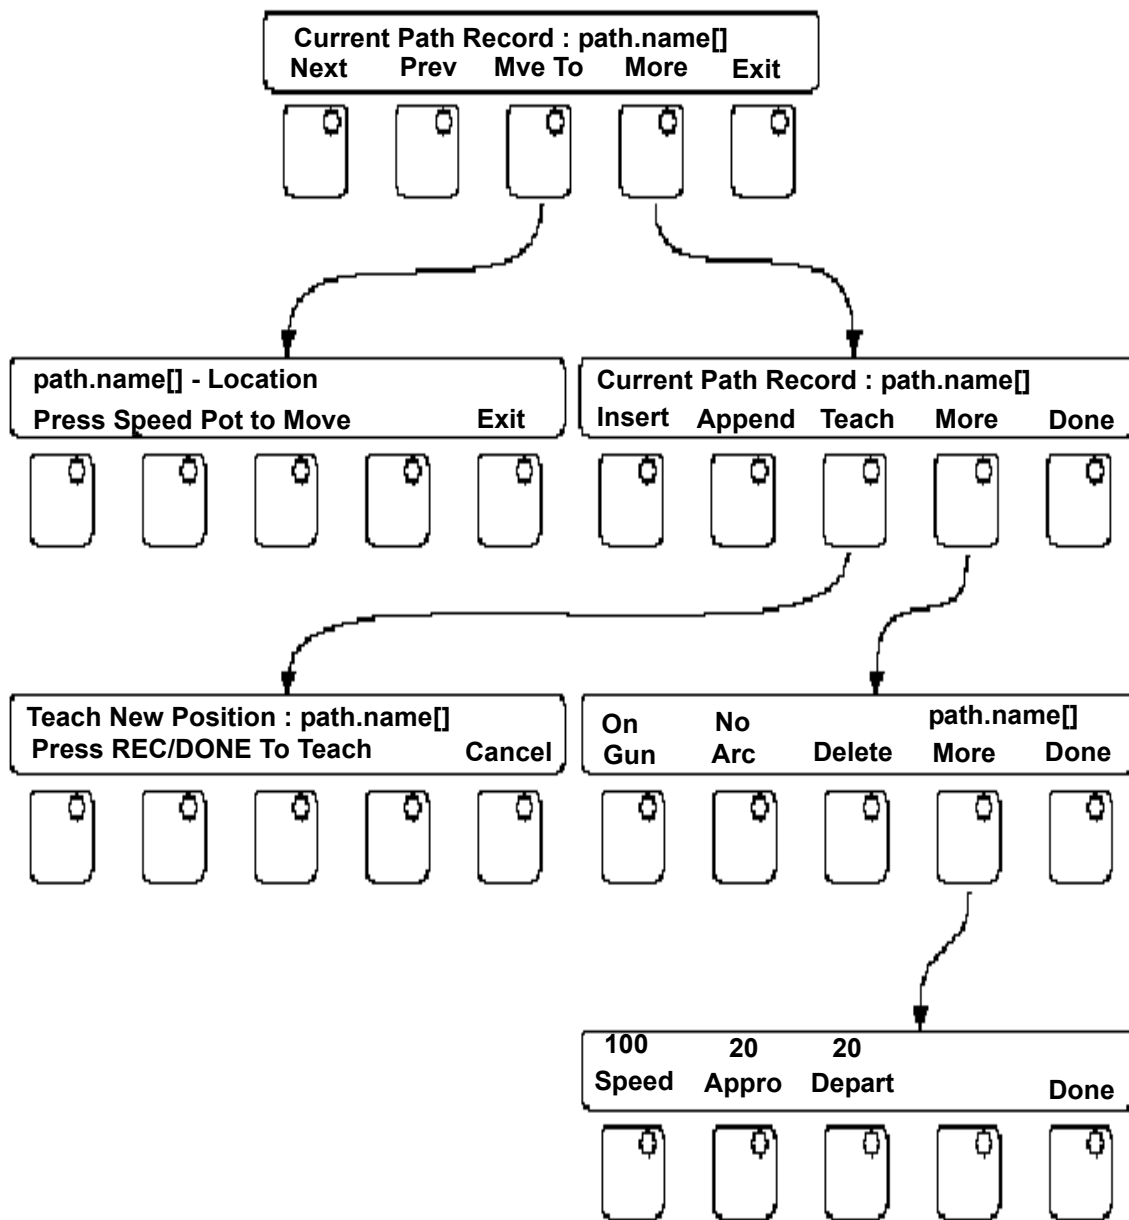

Figure 4-22. Pendant Path Teaching Utility Tree
5. If *Mve To* is pressed, the pendant displays the menu options shown in Figure 4-22. This option allows you to move to the displayed record position by pressing the "+" speed control pot. If the "-" speed control pot is pressed, the robot moves back to the previous position. If the location in the record has not been defined, the teach pendant will display an error.
6. If *More* is pressed, the pendant displays the following menu options that are shown in Figure 4-22.
Teach	move the robot to the desired location using the pendant. Record the current robot position in the path segment record by pressing the "REC/DONE" button. Abort the teaching operation by pressing "Cancel". Refer to Figure 4-22 for teach pendant display.
7. If "More" is pressed from the second pendant menu, the display shown in **Figure 4-22** will appear. The following options are available:
8. If "More" is pressed from the second pendant menu, the display shown in **Figure 4-22** will appear. The following options are available: